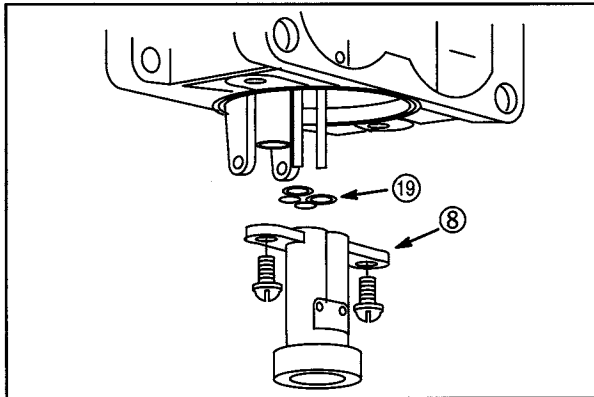

Fig. 127
6. Install emulsion tube body (8) with new gasket (19), Fig. 127. Tighten screw securely.